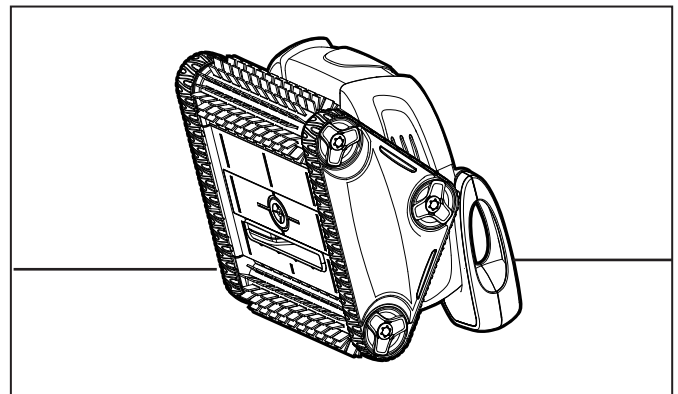

Figure 25. Stand Cleaner Upright
1. Stand the cleaner on its end in a vertical position (see Figure 25).